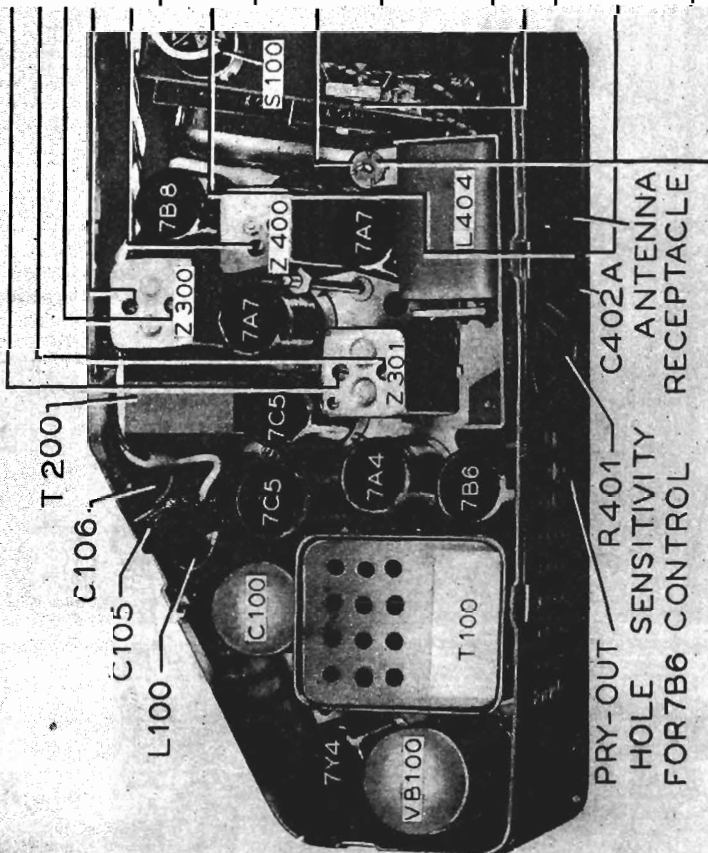

Figure 9. Chassis view, showing trimmer locations.
3. Turn the volume control fully on and set the sensitivity control (shown in Figure 9, page 6) at maximum. Connect an antenna or a signal generator to the antenna receptacle, and ascertain that the receiver definitely does not operate properly.